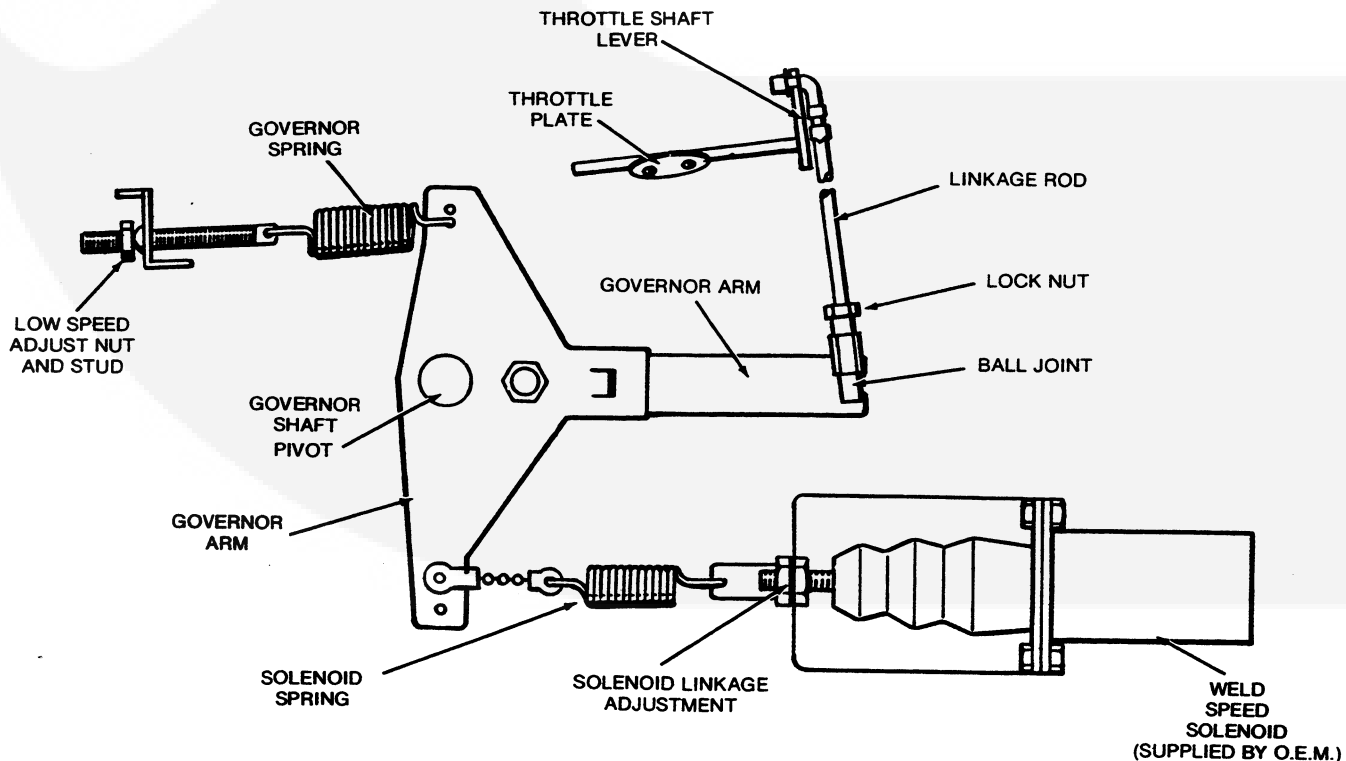

FIGURE 7. TWO SPEED GOVERNOR MECHANISM
The governor linkage rod connects the governor arm (Figure 7) to the throttle shaft lever so they function properly when the engine starts and runs. The linkage rod is adjusted with the engine stopped and the throttle plate at wide open position. The engine will
9. Adjust low speed nut (Figure 7) on governor spring for a stable no load engine speed of 1850 rpm.
1. Make sure governor linkage and speed adjustments are correct and governor spring is in hole nearest to governor shaft pivot. See Figure 7.
5. Adjust solenoid linkage (Figure 7) so that a full stroke of the energized solenoid operates the engine at about 3000 rpm.